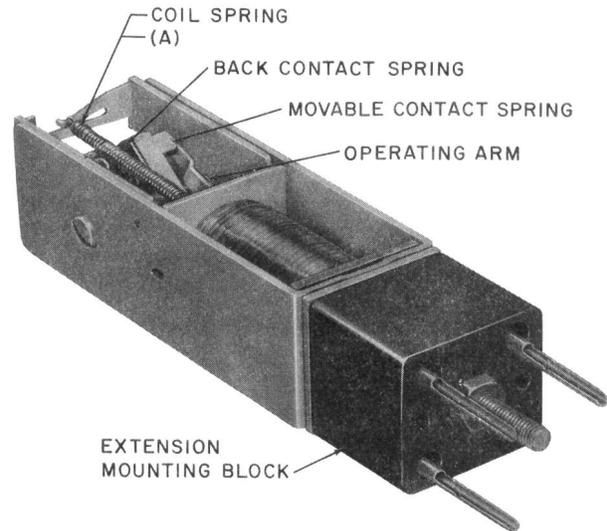

Fig. 11—14-Type Register Having Normally Closed Contacts and Extension Mounting Block for Mounting in Place of 5- and 12-Type Registers
2.15 Coil Spring Clearance: Fig. 11, (A)—The coil spring shall not touch the register cover assembly.